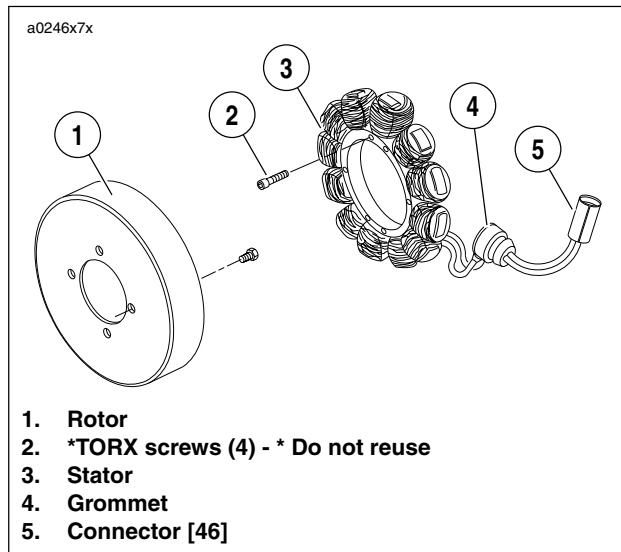

Figure 7-54. Stator Assembly
1. See Figure 7-54. Disconnect stator wiring from voltage regulator wiring at connector [46] located behind left foot-rest support.
1. See Figure 7-54. Feed stator wiring with attached grommet into open grommet hole in left crankcase half.